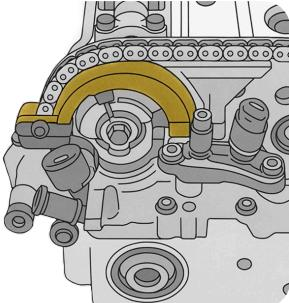

fig.2
5. Insert the camshaft setting plate into the slots at the rear of the camshafts (see fig. 2).